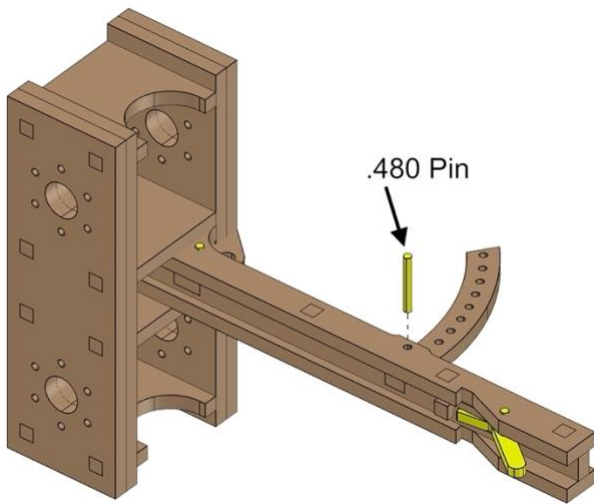

Fig. 29
- Align parts exactly as shown in *Fig. 29*.